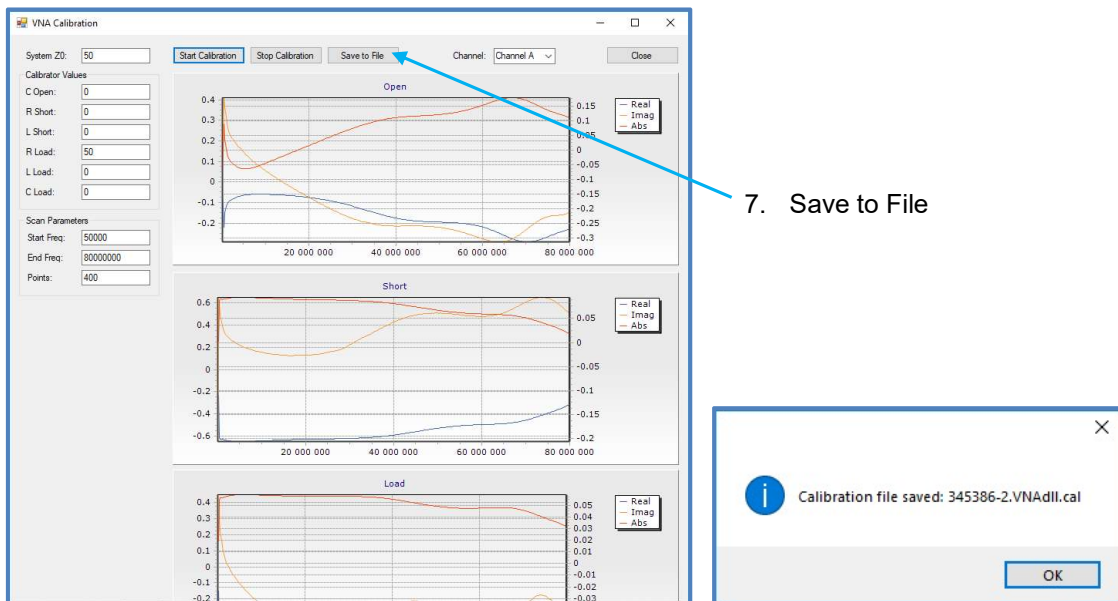

Figure 104: VNA Calibration window after calibration (left) and text box after saving calibration (right).
6. The calibration will now be completed and the three calibration curves will be plotted in the VNA Calibration window, shown in Figure 104.